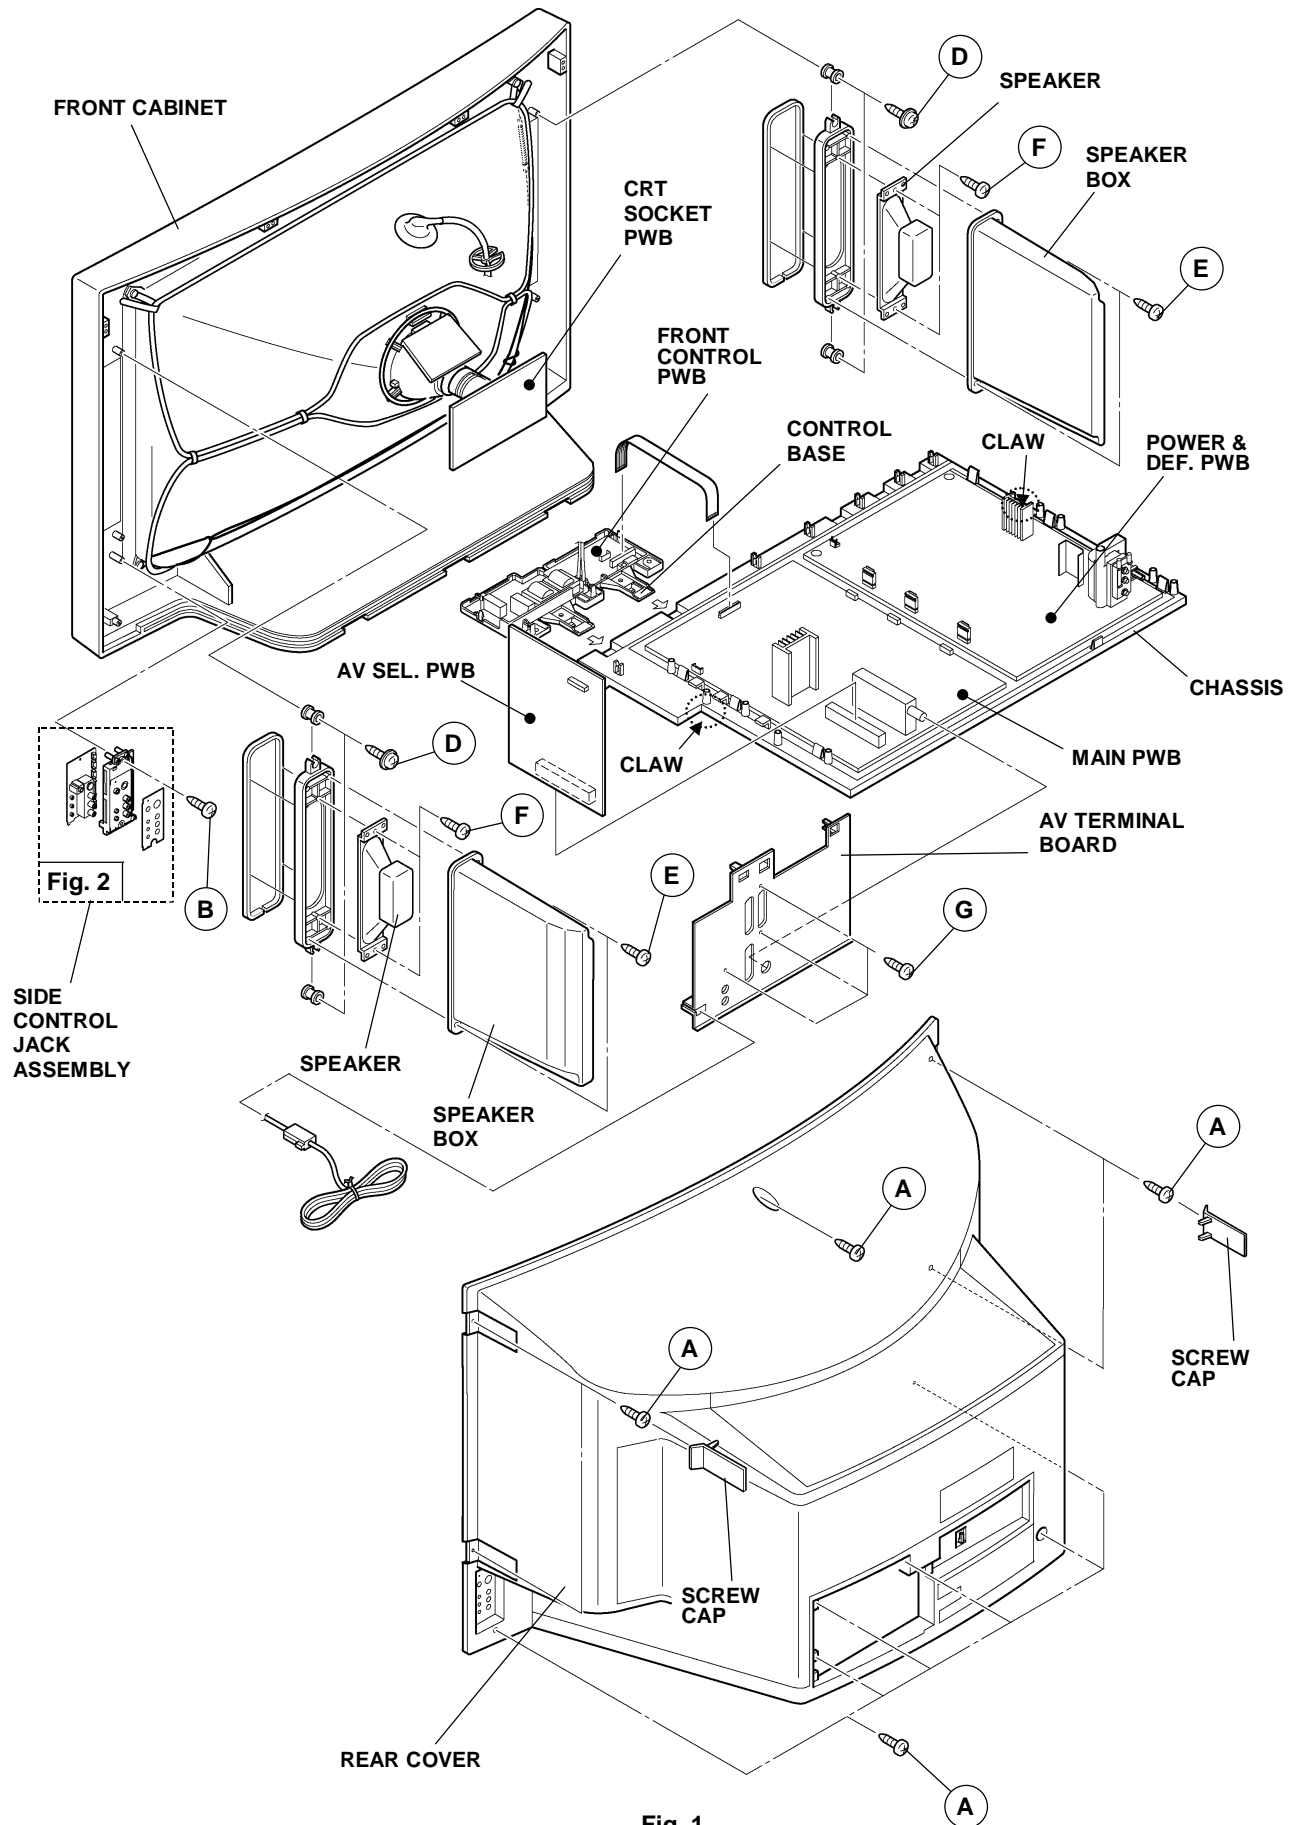

Fig. 1
1. Remove the 2 screws marked "D" as shown in Fig. 1.
1. Remove the 3 screws marked "G" as shown in the Fig. 1.